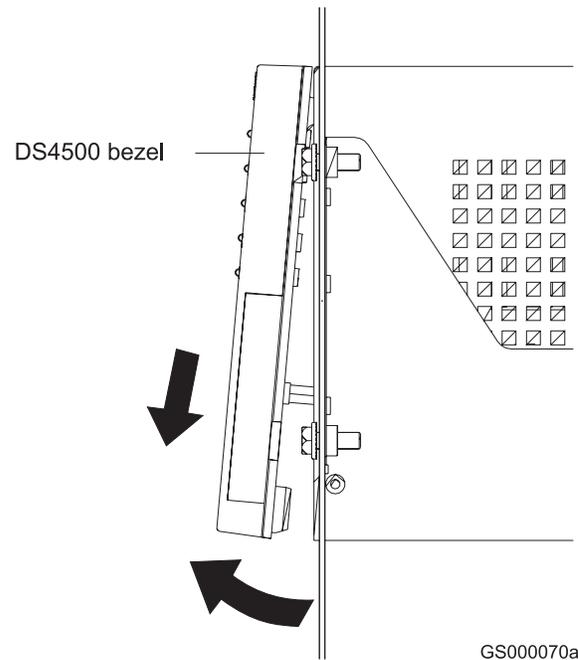

Figure 13. DS4500 Storage Subsystem bezel removal
2. Slide the bezel down, as shown in Figure 13.